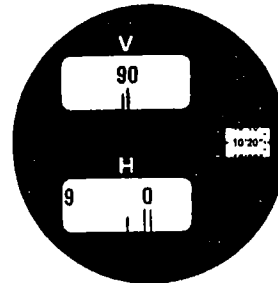

Fig. 27
- c. Turn the micrometer knob until 10'20" aligns with arrow indices of the MS window, Fig. 27.